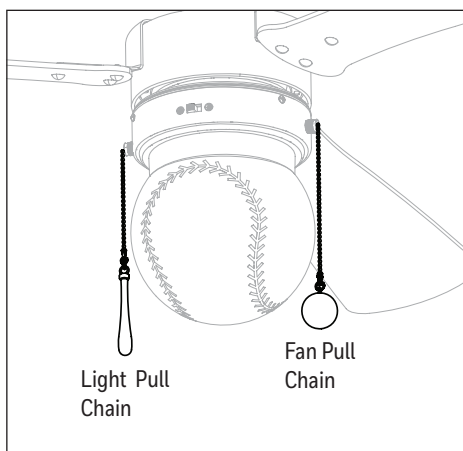

Figure 6.2
2. The fan pull chain has four positions to control fan speed. One pull is HIGH, two is MEDIUM, three is LOW and four turns the fan OFF. The light pull chain has two positions -- OFF and ON (Figure 6.2).